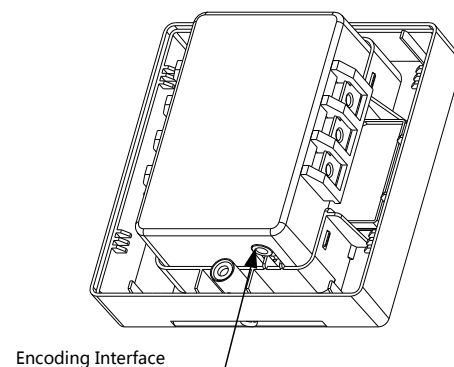

Fig.6
5. Address coding: Insert the coder's output connector (a  $\Phi$  3.5 phone plug) into the coding jack (see Fig.6), set the coder with the coding function, compile the correct address code and press the RUN key to complete the address code setup. Note: See the User's Manual of the coder for detailed operation.